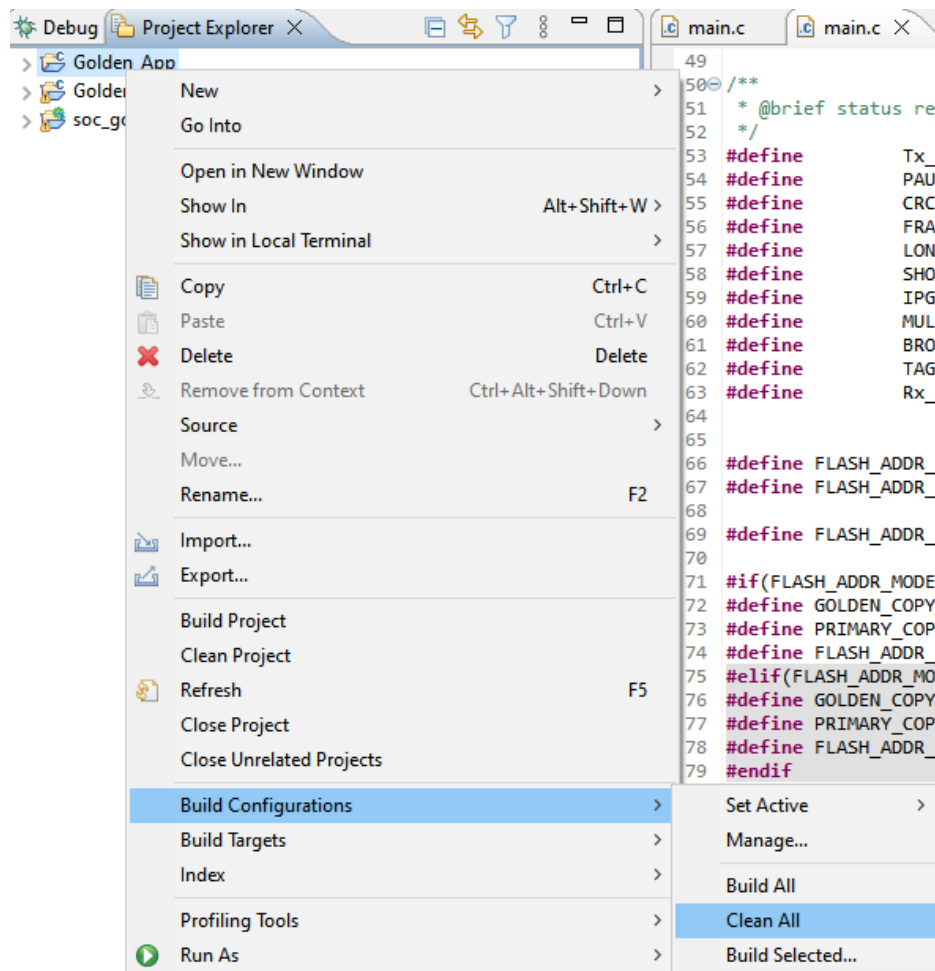

Figure A.28. Clean All Configurations
1. Right-click on the firmware project folder **Golden_App** and select the **Clean All** option as shown in Figure A.28 to clean the project before building.